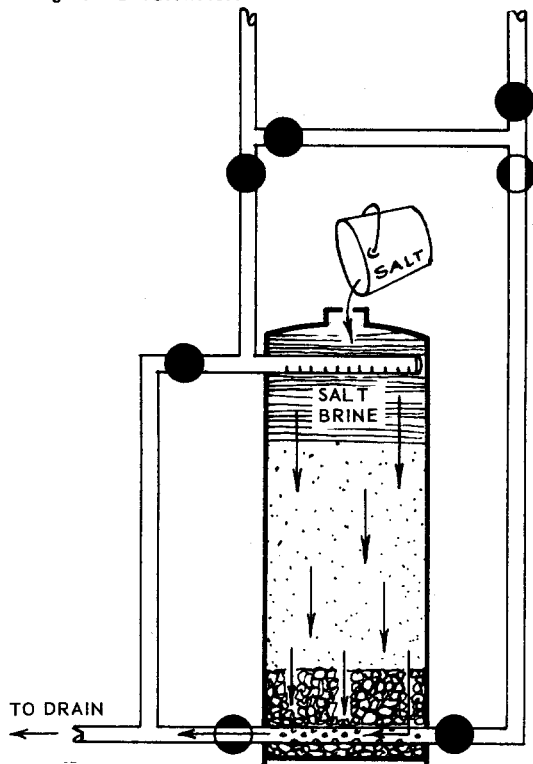

Fig. 2 REGENERATION
2. BRINING (Fig. 2) The brine operation is the chemical process of recharging the softener. The brine is left in contact with the ion exchange material for 30 minutes in order that the sodium (Na) in the salt (NaCl) will combine with the ion exchange material. The chemical reaction leaves free calcium chloride (CaCl_2).